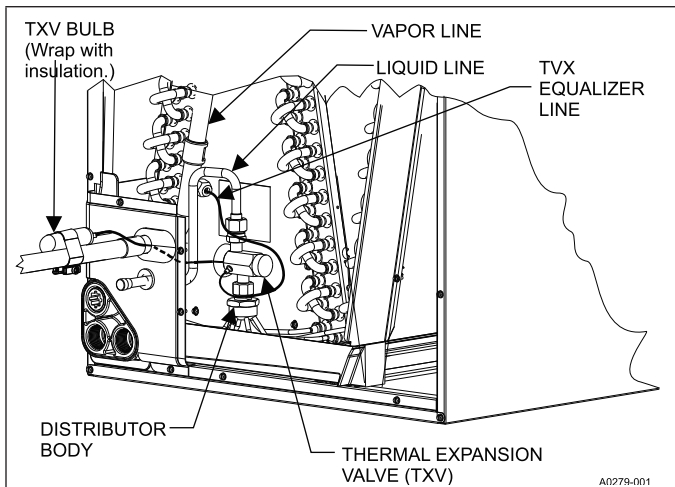

FIGURE 11: TXV Bulb Installation
- Install the TXV equalizer line onto the vapor line by hand tightening the 1/4" SAE coupling nut to the equalizer fitting, and apply an additional 1/3 turn to seal. See Figure 11.
- Install the TXV bulb to the vapor line near the cabinet, using the bulb clamp(s) furnished with the TXV assembly. Ensure the bulb is making maximum contact. See Figures 11 and 12, and accomplish the following: